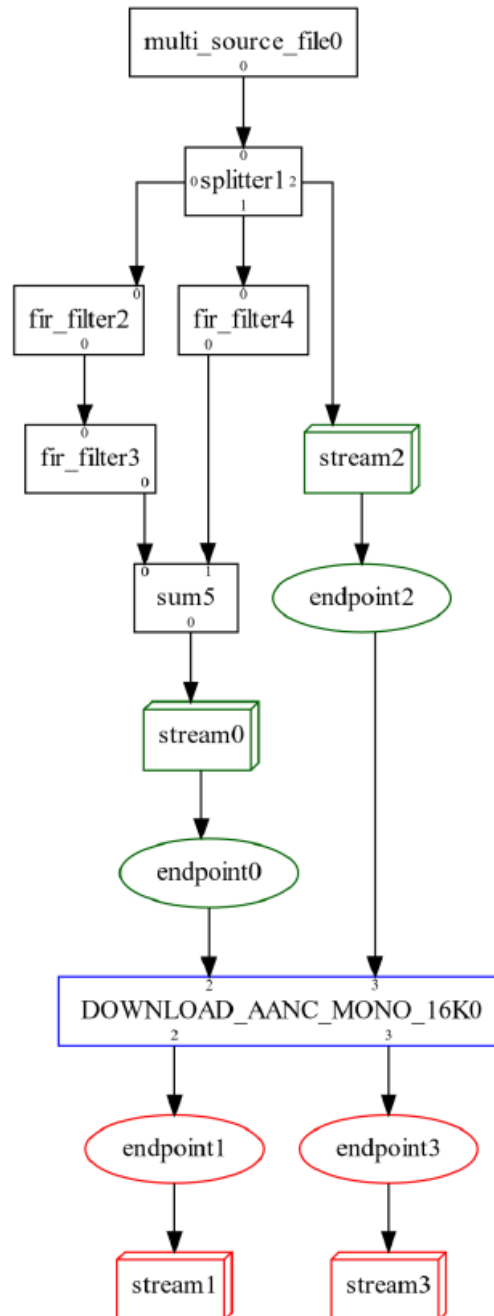

Figure 2-12 KSE simulation graph for Enhanced ANC
- `config\aaanc.cfg.json` file: This is a JSON configuration file that describes the graph. Figure 2-12 demonstrates the input noise signal being split between two paths. The external microphone receives the signal directly. The internal microphone is filtered using the following three FIR filters, which are set to unity gain for simulation purposes.